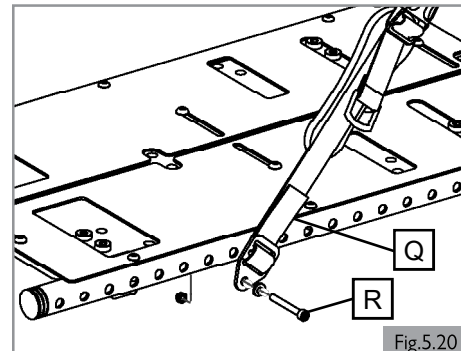

Fig.5.20
### 5.13 Lap belt / seating positioning belt (Fig. 5.20)
1. Attach belt (Q) to the seating frame using provided screws on the left and on the right. (Fig. 5.20)
2. Tighten (R). See section 9 for specified torque values.